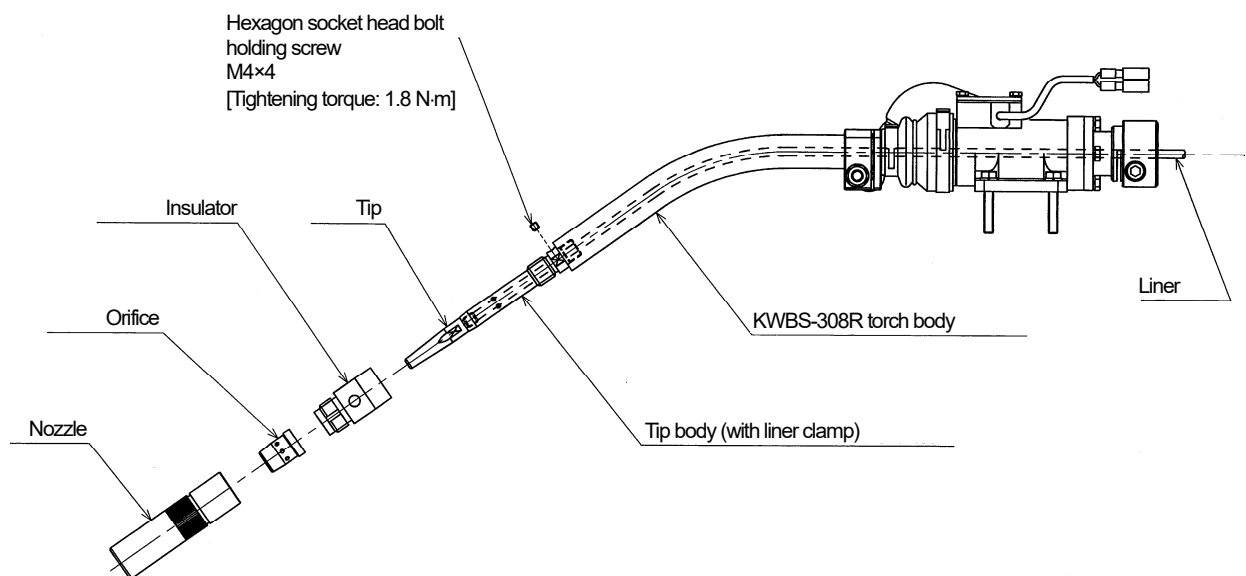

Figure 2.5 Liner clamp mechanism
1. Referring to the Figure 2.5, remove nozzle, orifice and insulator of the torch.